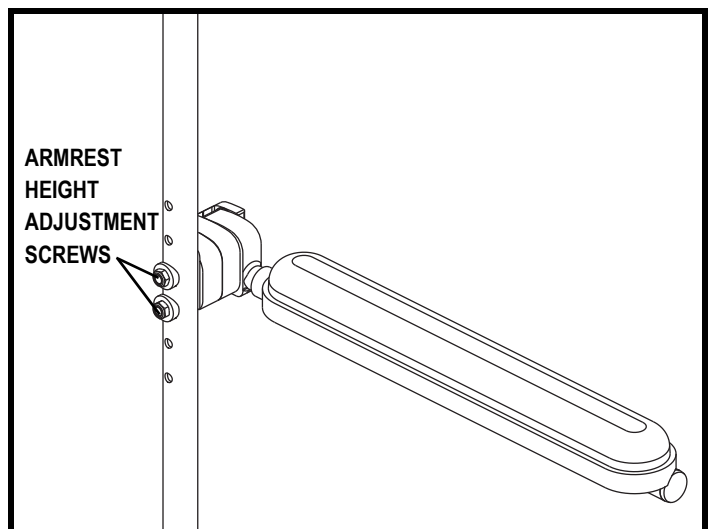

Figure 34. Flip-up Armrest Height Adjustment
1. Remove the armrest height adjustment screws. See **figure 34**.